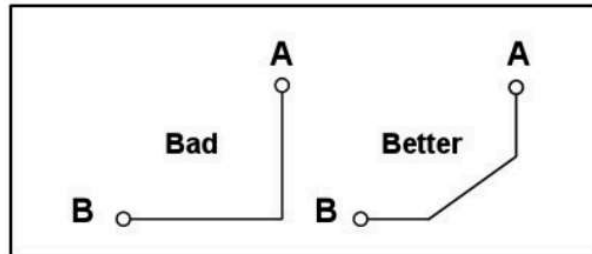

Figure 6. Signal Trace Angles
- Ninety-degree trace turns must be avoided. We recommend that the traces turn at 45° angles as shown in Figure 6. Sharp edges may add unexpected parasitic effects into the circuitry. Reducing the trace length will reduce trace inductance during quick energy bursts.